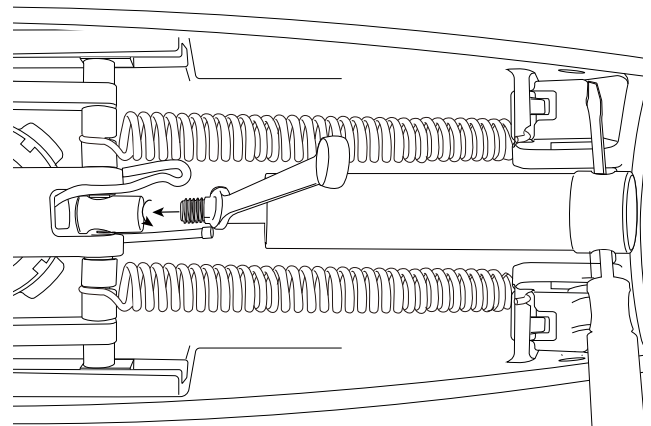

Figure 12. Threading the replacement cylinder
**2** Thread the replacement cylinder into the pivot cap still in the chair (see Figure 12). Tighten down fully.